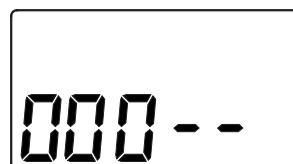

FIG. 40
1. Press and hold the SELECT button until the screen in Figure 40 is displayed.